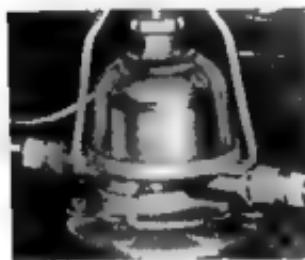

Fig. 32—Fuel Pump
**Description.** The fuel pump is mounted on the right side of engine (fig. 32) and is operated by an eccentric on the engine camshaft. It pumps fuel from the fuel tank and delivers it to the carburetor.